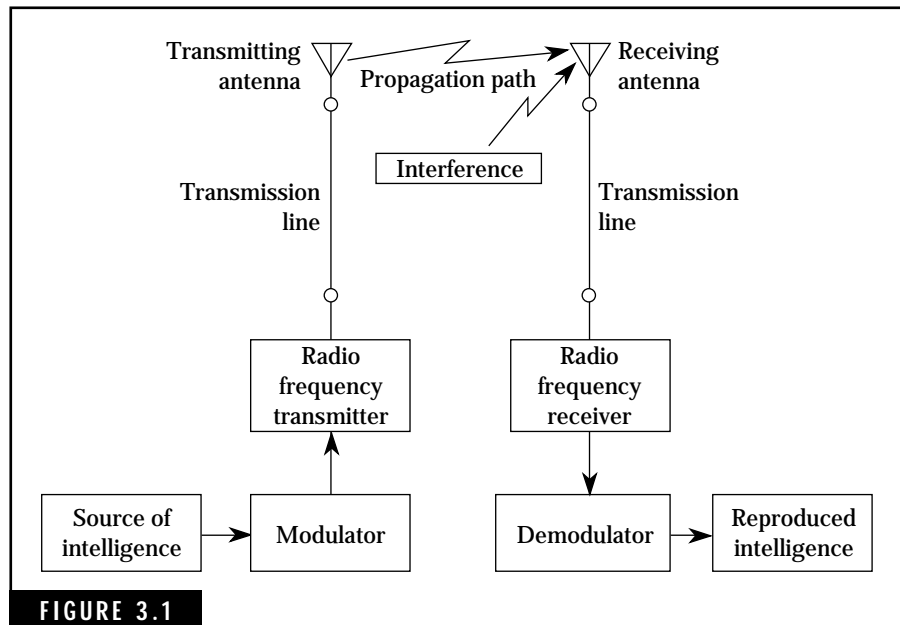

FIGURE 3.1
Figure 3.1 illustrates a generalized model of a radio communications system. The source of intelligence can be code being generated by a telegraph key or a microphone picking up the sounds of human speech. This intelligence, when applied to the modulator, varies the transmitter's radio-frequency (RF) output energy by the modulation method being used. In the case of code transmissions, the key can be used to switch on and off the carrier frequency of the transmitter, resulting in a series of dits and dahs containing the required information. Voice modulation schemes can employ amplitude or frequency modulation.